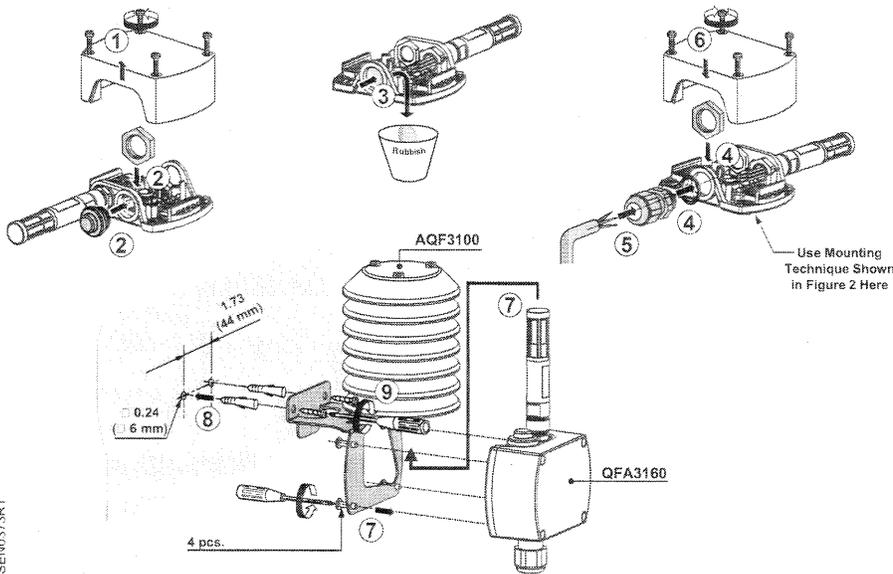

Figure 1. Rh/T Outdoor Air Sensor Installation.
1. Determine where the sensor is to be located and install the Sun Shield, AQF3100, as shown in Figure 1. The installation surface determines which mounting components are to be used.
NOTE: The shield must be mounted vertically as shown in Figure 1.
2. Remove sensor cover and install plug in knockout next to sensing probe. See Figure 1 (2).
5. Install the sensor onto the Shield as shown. See Figure 1 (7).